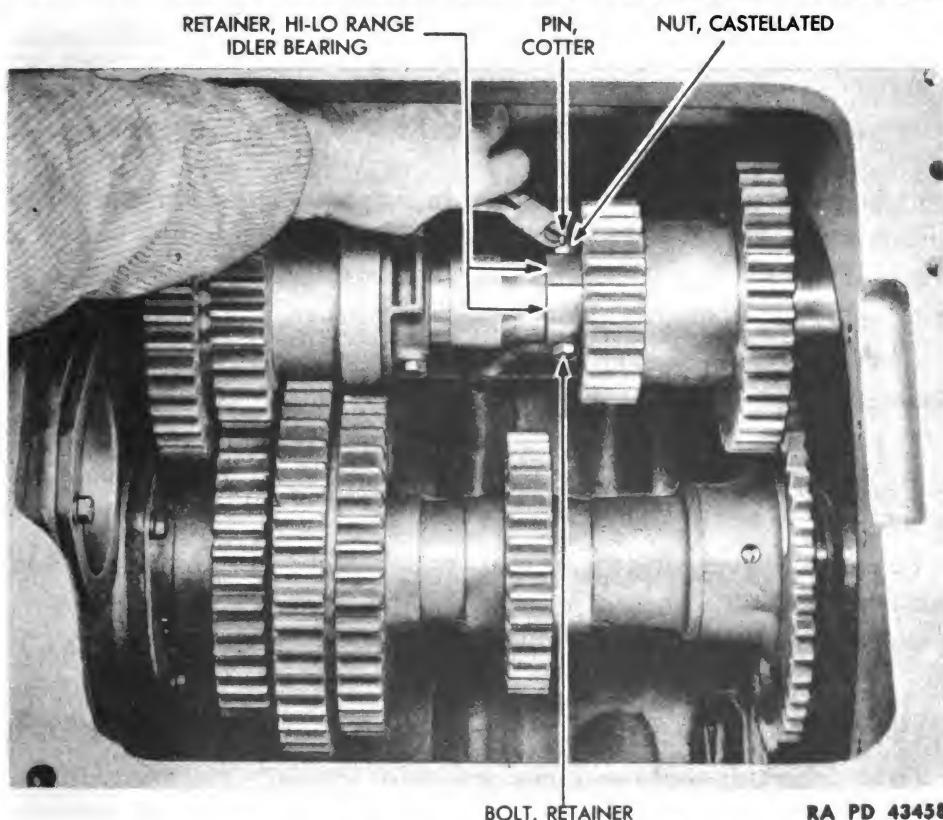

Figure 40 — Rear Hi-Lo Range Idler Bearing Retainer Removal
- (16) REMOVE REAR HI-LO RANGE IDLER BEARING RETAINER (fig. 40).